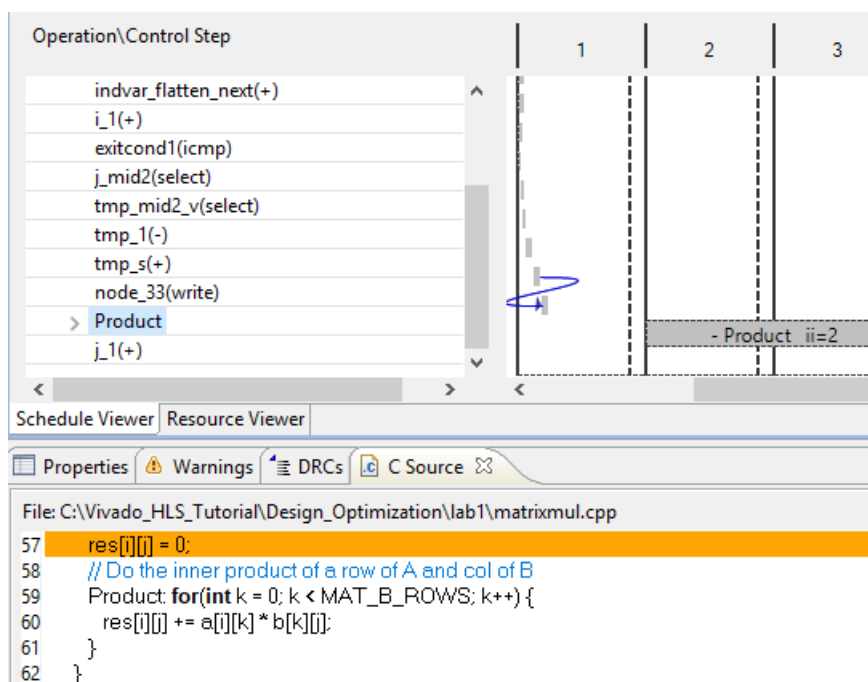

Figure 7-7: Matrixmul Initial Performance View
- Right-click and select **Goto Source** to see the view in Figure 7-7.